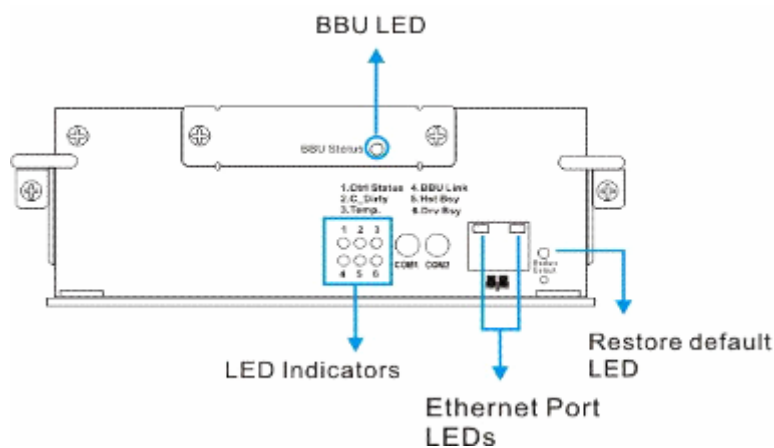

Figure 4-3: Controller LEDs
The controller faceplate is shown in *Figure 4-3*. Nine (9) LEDs of different types are present and described in the following sub-sections.
Each I/O module provides 4G FC SFP ports. Each of these ports has two (2) LEDs (see *Figure 4-3*) for displaying the link and speed statuses. Host port LEDs are used here as examples.
A restore default LED is located above the Restore Default push button on the lower right corner of the controller faceplate. (See *Figure 4-3*) To restore firmware defaults, press and hold the button before powering on the subsystem. Once the factory defaults are successfully restored, the restore default LED lights green.